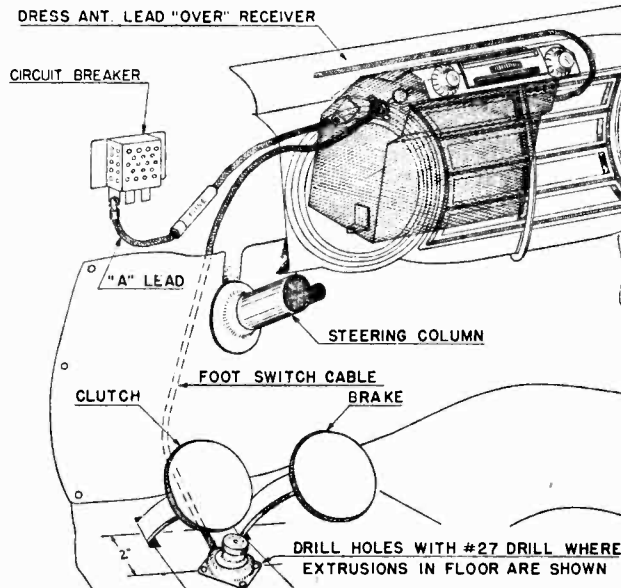

FIG. 3
- 6—Connect the "A" lead to the battery terminal of the circuit breaker on the firewall. (Fig. 3.)
- 2—Drill a hole in each of the three extrusions in the floor, between the clutch and brake pedals, with a No. 27 drill. (Fig. 3.)